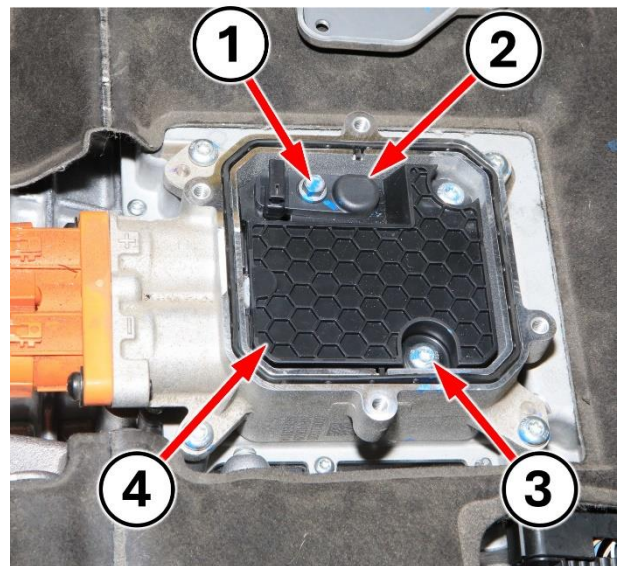

Figure 37 – EDM Guard Plate
76. Remove the fastener (1) securing the High Voltage Interlock (HVIL), then remove the HVIL (2) (Figure 37).
77. Remove the three fasteners (3) securing the guard plate (4) then remove the guard plate (Figure 37).